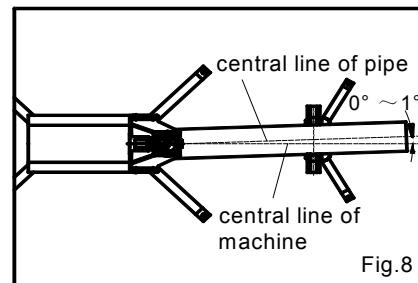

Fig.8
5.1.7 Put the pipe stand at a proper place on the axis of the spindle of the pipe grooving machine, and then put the pipe to be grooved on the spindle and the pipe stand. Adjust the pipe stand to make the axis of the pipe be aligned with the axis of the pipe grooving machine in both vertical and horizontal directions with an angle allowance within one degree, just as shown in Fig.7 and Fig.8. It is suggested that the pipe stand should be put at a place about 3/4 of the total length of the pipe to be grooved.